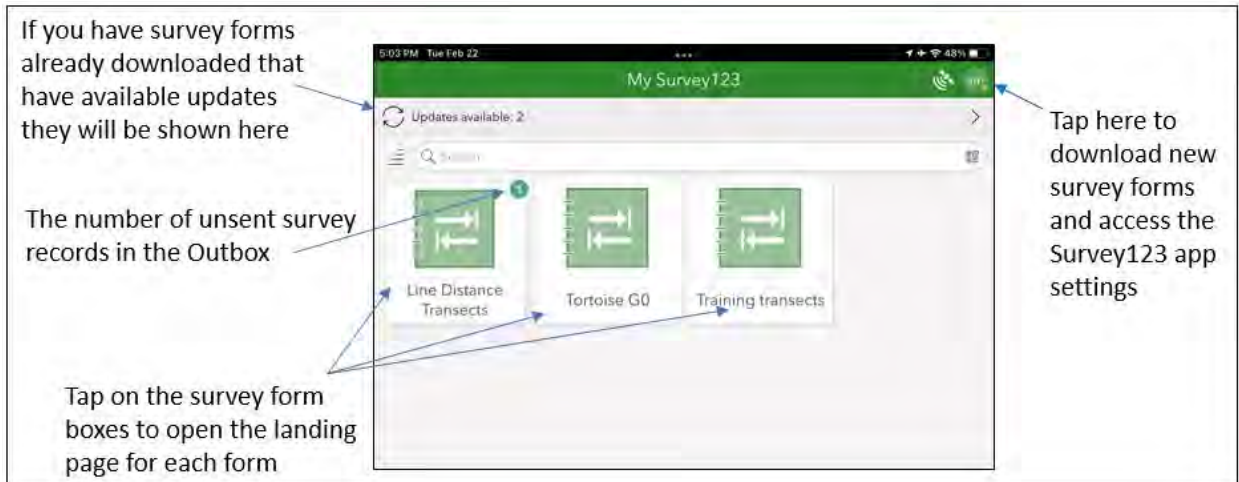

Figure 7-3
- e. If you need to download new survey parent forms you can click on the circular icon in the top right corner, which will have the initials of your ArcGIS username (Figure 7-3). This will open a side bar, from which you can choose  **Download Surveys** . This will open the “Download Surveys” page, which will have all available USFWS survey forms. Scroll until you see the form you need. Tap the  icon to the right of the form you need to download it.
- f. If you already have survey parent forms downloaded but they are out of date (i.e., they have been revised by project management) you will be alerted with a message on the My Survey123 homepage that you have updates available (Figure 7-3). Tap on that message, then tap on the  symbol to the right of each of the listed surveys to update them. Crews should be informed directly by project management whenever survey forms are updated, but it is still a good idea to keep an eye out for these alert messages in the My Survey123 page.